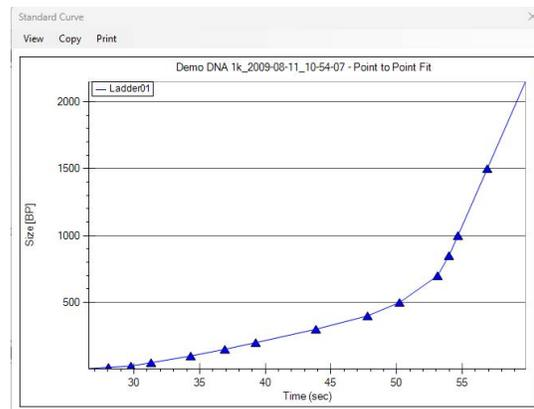

Figure 4. Standard Curve Window - DNA
- The ladder is analyzed (see Ladder Analysis on page 282) and a standard curve of migration time versus DNA size is plotted from the DNA ladder by interpolation between the individual DNA fragment size/migration points. The standard curve derived from the data of the ladder well should resemble Figure 4.